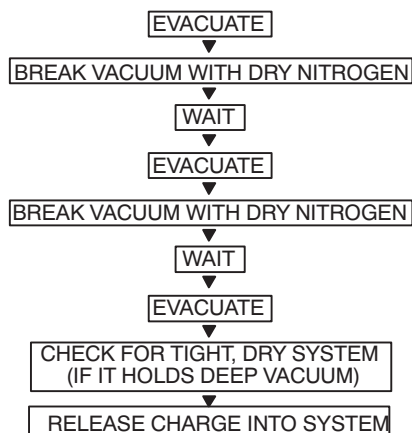

Fig. 48 —Triple Evacuation Method
The triple evacuation method should be used when vacuum pump is not capable of pumping down to 1/4 inch and system does not contain any liquid water. Refer to Fig. 48 and proceed as follows:
5. Repeat this procedure as indicated in Fig. 48. System is now free of any contaminants and water vapor.